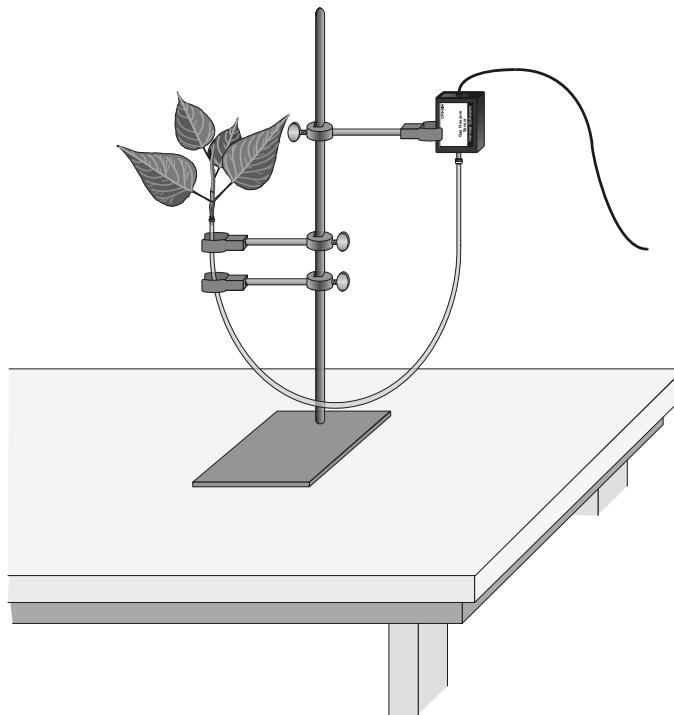

Figure 1
1. Position the ring stand, utility clamps, and Gas Pressure Sensor as shown in Figure 1.